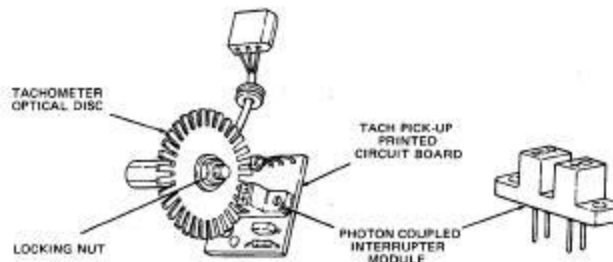

Figure 11-6. Tachometer Optical Disc
- d. Remove the locking nut for the tachometer optical disc and remove the disc. Figure 11-6.